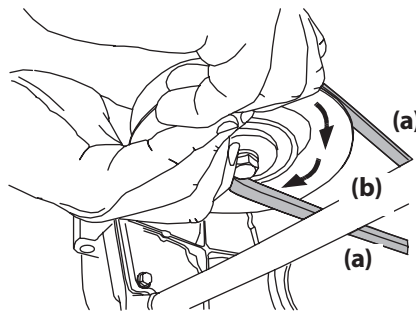

Figure 4-12
- d. While still holding the PTO belt (a) downward, continue turning the PTO pulley (b) until the PTO belt (a) is rolled off the PTO pulley (b). Refer to Figure 4-12.